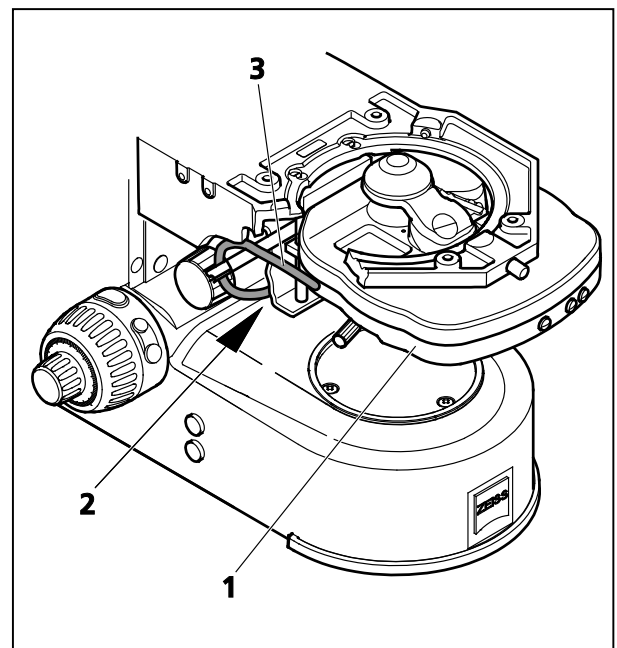

Fig. 26 Attaching the achromatic-aplanatic universal condenser, mot.
- When using a motorized condenser (Fig. 26/1) (on the motorized stand) thread the connecting cable (Fig. 26/3) through the opening in the stage carrier to the back and insert the plug into socket (Fig. 26/2) on the right of the stand base.